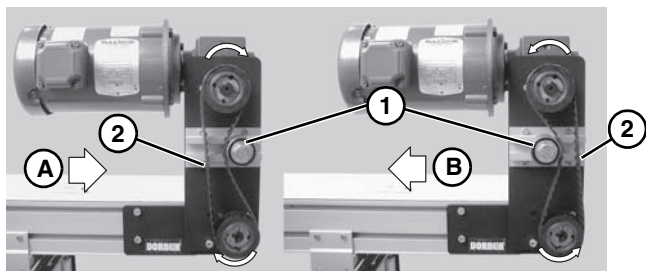

Figure 10
9. Depending on conveyor belt travel (direction A or B), locate timing belt tensioner (**Figure 10, item 1**) as shown. Tension timing belt to obtain 1/8" (3 mm) deflection for 6 lb (3 Kg) of force at timing belt mid-point (**Figure 10, item 2**). Tighten tensioner screw to 110 in-lb (12 Nm).
3. Depending on conveyor belt travel (direction A or B), locate timing belt tensioner (**Figure 10, item 1**) as shown. Tension timing belt to obtain 1/8" (3 mm) deflection for 6 lb (3 Kg) of force at timing belt midpoint (**Figure 10, item 2**). Tighten tensioner screw to 110 in-lb (12 Nm).
5. Depending on conveyor belt travel (direction A or B), locate timing belt tensioner (**Figure 10, item 1**) as shown. Tension timing belt to obtain 1/8" (3 mm) deflection for 6 lb (3 Kg) of force at timing belt midpoint (**Figure 10, item 2**). Tighten tensioner screw to 110 in-lb (12 Nm).